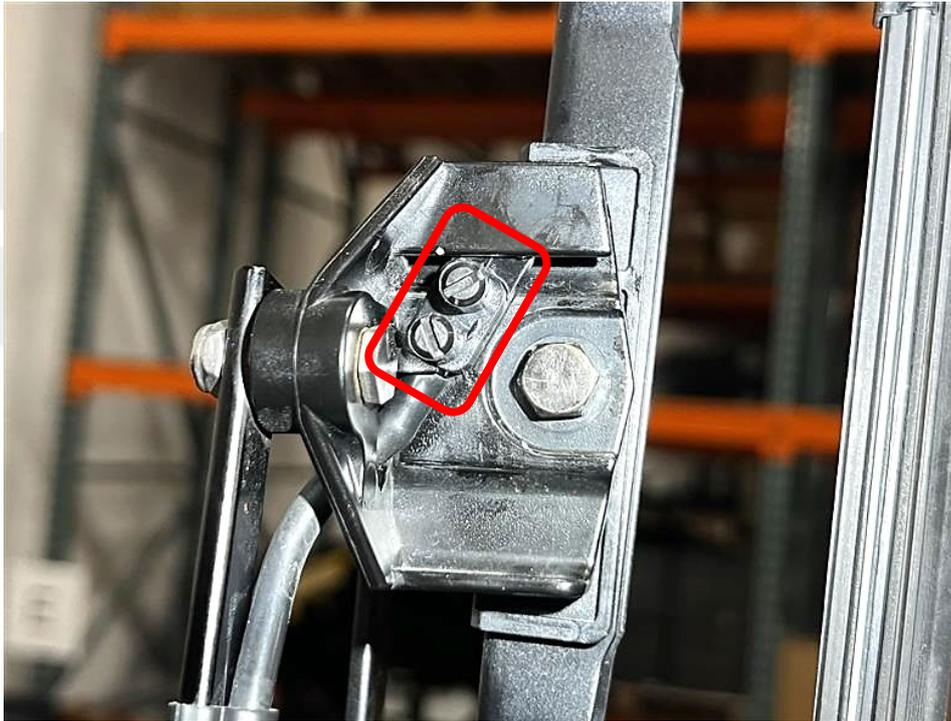

Figure 6 – Windshield washer nozzle location
- a. Use a small flathead screwdriver to release the locking tab that attaches the windshield washer nozzle to the wiper arms, and then remove the washer nozzle from the wiper arm housing (Figures 6–8).